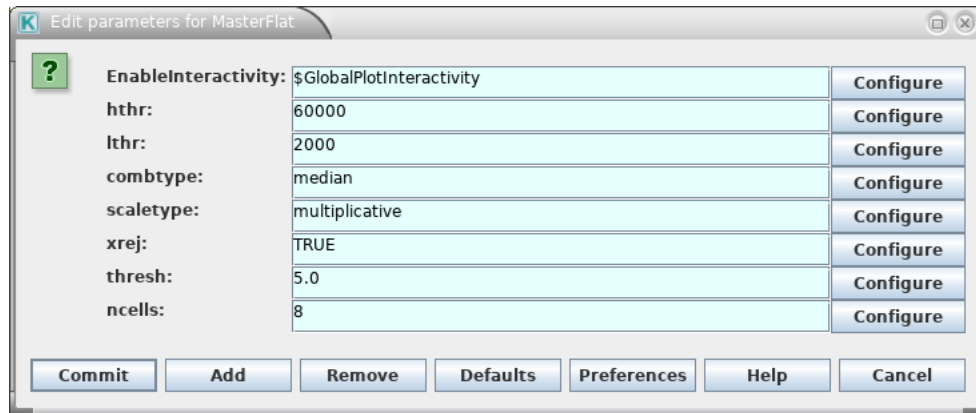

Figure 9.2: The Configure Actor window for the `vimos_ima_twilight_flat` Recipe Executer.
4. A user may double-click on the actor that runs a recipe; these actors share the name of the recipe they execute and appear to have a cylinder with a thick circular arrow on them. A window will appear that enables a user to change that actor's behaviour, including parameter values (see Figure 9.2). Note that most recipe parameters have a value set to `PORT`; this tells the actor to use specially crafted values from an input port. This method of changing recipe parameters is *not* recommended. If a non-`PORT` value is specified, the actor will ignore any changes to parameters made using the three methods listed above. However, there are two recipe parameters that can only be changed using this method: `prettynames` and `preview_only`. They are both set to `false`; `true` values have no use in a workflow environment.